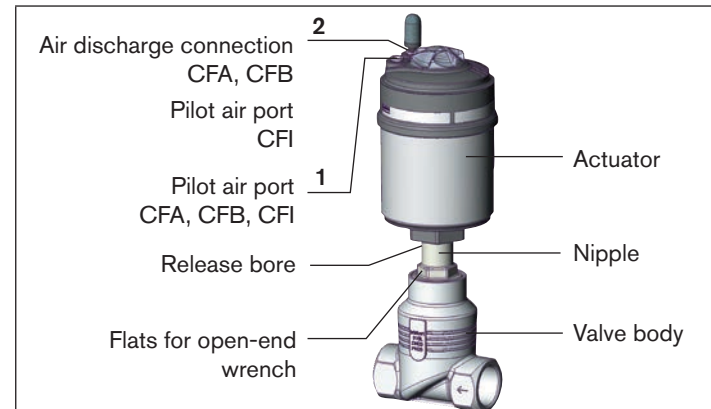

Fig. 24: Designation parts
- **Control function A and I** Pressurize pilot air port **1** with 6 – 8 bar (see "Fig. 24: Designation parts").
- **Control function B** Pressurize pilot air port **2** with 6 – 8 bar (see "Fig. 24: Designation parts").